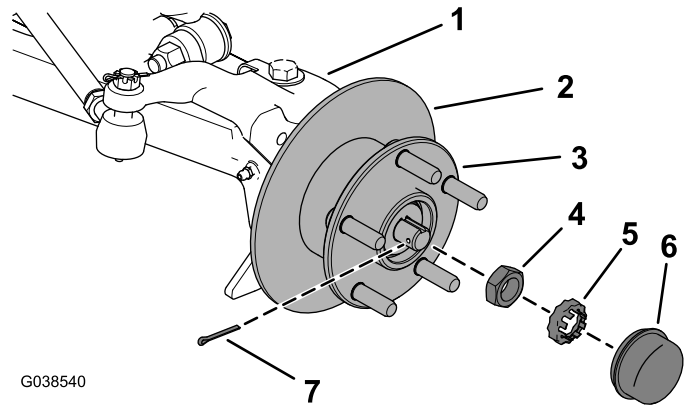

Figure 6
- Remove the dust cap, hairpin cotter, nut retainer, and jam nut, and remove the hub and rotor from the spindle (Figure 6).
- A. Tighten the jam nut while turning the hub to seat the bearings, and torque the jam nut to 16 to 20 N·m (12 to 15 ft-lb) as shown in Figure 6.
- B. Loosen the jam nut until it is away from the tab washer and hub, and torque the jam nut to 169 to 226 N·cm (15 to 20 in-lb) while rotating the hub (Figure 6).
- C. Install the nut retainer over the jam nut, ensure that the hole for the hairpin cotter is visible, and install the hairpin cotter (Figure 6).
- D. Install the dust cap (Figure 6).